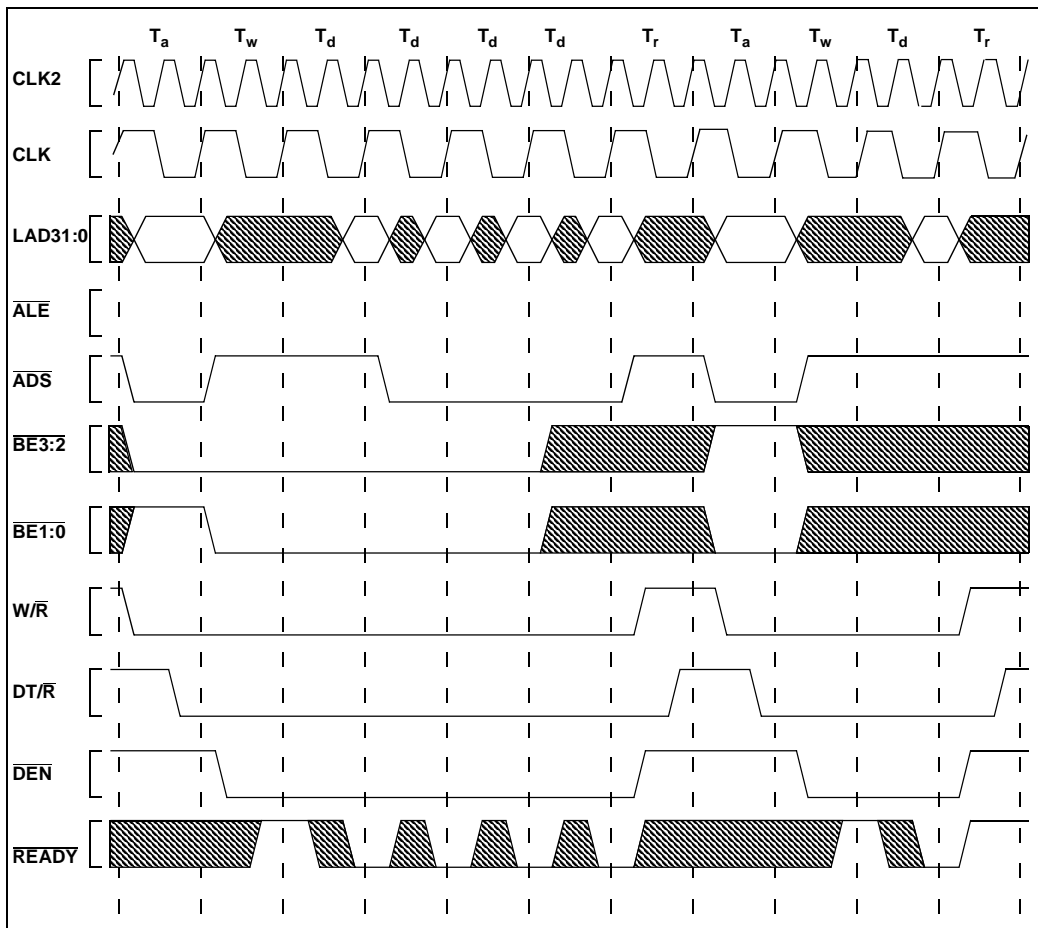

Figure 26. Accesses Generated by Quad Word Read Bus Request, Misaligned Two Bytes from Quad Word Boundary (1, 0, 0, 0 Wait States)
- [Figure 26, Accesses Generated by Quad Word Read Bus Request, Misaligned Two Bytes from Quad Word Boundary \(1, 0, 0, 0 Wait States\) \(pg. 33\)](#)